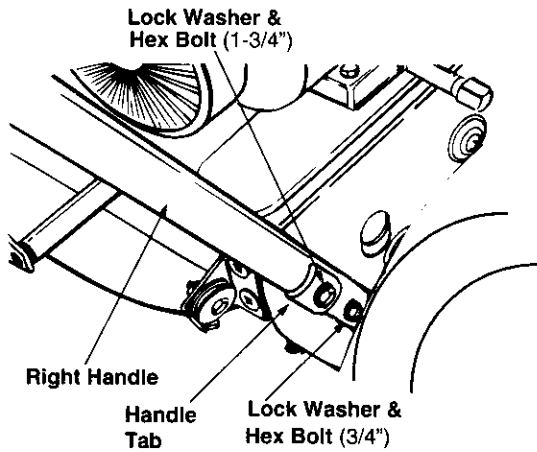

Figure 2
- Secure bottom hole in the handle to the snow thrower using 5/16 x 0.75" hex bolt and lock washer from the hardware pack (group A on page 5). Do not tighten at this time. See Figure 2.
- Place a handle tab, included in the hardware pack (group A on page 5), over the upper hole in handle so that the contour of the handle tab matches that of the handle. See Figure 2.